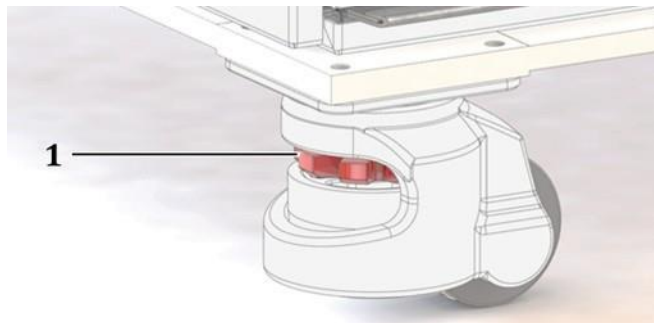

Figure 4-9 Caster lock
- ⇒ Secure the laser against rolling by turning the caster lock (1) counter clockwise (Figure 4-9).